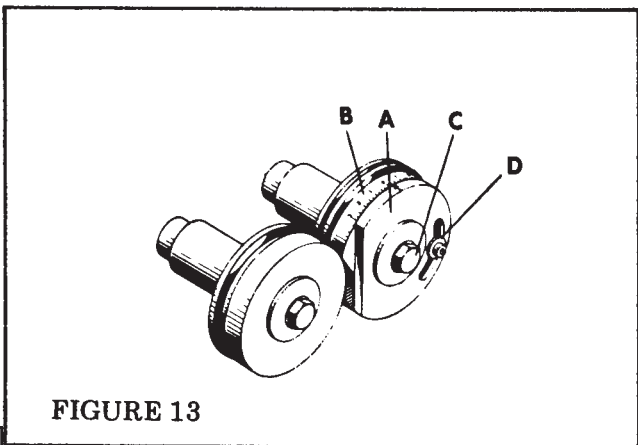
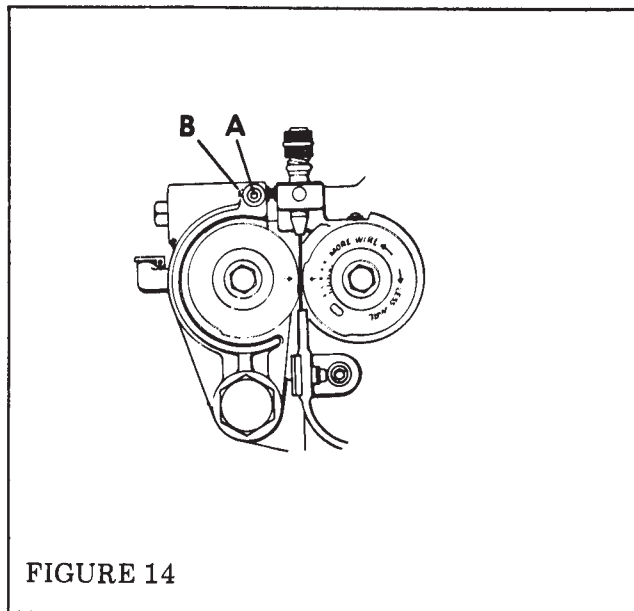

FIGURE 13
FIGURE 14
The relationship of the flat on the cam plate (Index A, Figure 13) with the flat on the right hand feed wheel (Index B, Figure 13) determines the amount of wire which is fed into the machine.
Turn off the motor and loosen feed wheel screw (Index C, Figure 13). Since turning this screw causes the gears to rotate unless held in place, it is necessary to apply clockwise pressure on a screwdriver inserted in the driver link (Index B, Figure 14). Loosen Allen capscrew (Index D, Figure 13) and turn cam as required. Move the arrow on the cam plate left to increase the right leg; move the arrow right to decrease the right leg. After making cam plate adjustment, tighten Allen capscrew and feed wheel screw while applying counterclockwise pressure on the screwdriver inserted in the driver link. This operation should be repeated until the lengths of stitch legs are equal or there is not more than a 1/64" variation.
- (1) Loosen set screw, (Index A, Figure 14)
- (2) Turn set screw (Index B, Figure 14) in to decrease and out to increase the amount of arc.
- (3) Lock set screw, (Index A, Figure 14)
Improper alignment will induce camber or will prevent the forming of a full arc. The ridge on the left hand feed wheel should mate with the groove in the right hand feed wheel. This can be checked by looking down through the check pawl hole after having removed the check pawl and while holding a piece of white paper under the feed wheels. If the alignment is not correct, it will be necessary to grind off the required amount from the front surface area around the hinge plate pivot hole. (See Index I, Figure 14). Generally, this is required for stitchers already in the field which were not originally made for Arcuate stitching. In these machines the face plate positions the left hand feed wheel too far forward for correct Arcuate alignment.
See Figure 29. (1) Lower the clincher block (Index A) as far as possible. (2) Step on the foot pedal and turn the drive wheel in the direction of blue arrow by hand until the former housing (Index B) is at the lowest point of its stroke. (3) Place work material on the clincher block with your left hand. (4) If the material is solid fibre, turn the adjusting nut (Index C on post type stitchers; Index 50, Figure 42 on arm type machines) until the material is held firmly between the clincher block and formers. If the work material is corrugated fibre, turn the adjusting nut (Index C, Figure 29) until the clincher block and formers slightly compress the work material. (5) Turn drive wheel until the driver link (Index B, Figure 14) is in a vertical position and drive wheel turns freely.